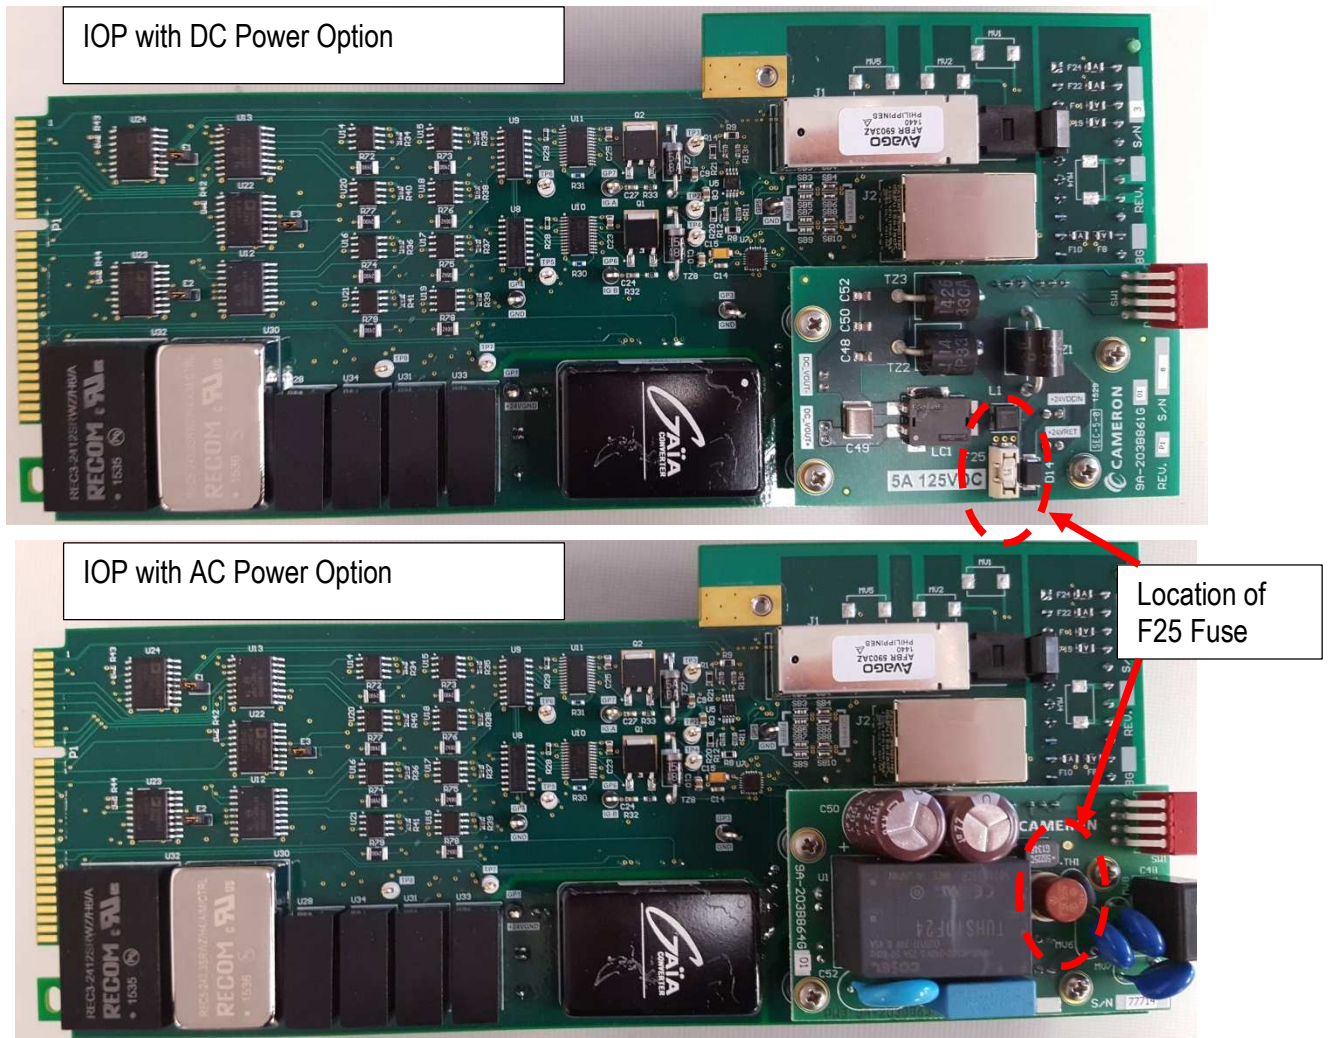

Figure 7-3 Location of IOP/F25 Fuse
5. Locate the IOP/F25 fuse. (Note – the fuse protects the electronics from errant wiring of power to 120/230 VAC). The F25 fuse is on the same side of the IOP board as the plug-in connectors, near the power inputs (TB1). Refer to Figure 7-3 below.